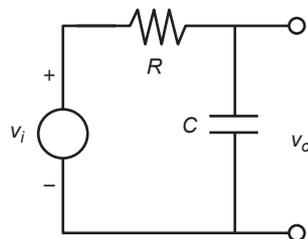

Figure P26
26. The circuit shown in Figure P26 consists of a resistor and a capacitor and is thus called an  $RC$  circuit. If we apply a sinusoidal voltage  $v_i$ , called the input voltage, to the circuit as shown, then eventually the output voltage  $v_o$  will be sinusoidal also, with the same frequency but with a different amplitude and shifted in time relative to the input voltage. Specifically, if  $v_i = A_i \sin \omega t$ , then  $v_o = A_o \sin(\omega t + \phi)$ . The frequency–response plot is a plot of  $A_o/A_i$  versus frequency  $\omega$ . It is usually plotted on logarithmic axes.